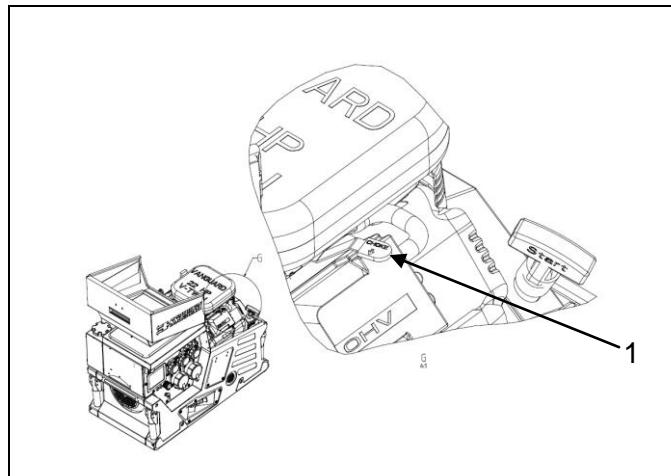

Figure 4-1: Actuate manual choke
1. Pull on the manually-operated choke (*Figure 4-1-(1)*) in < (completely for a cold engine / appropriately less for a warm engine) and hold firmly.
3. Bring the choke (*Figure 4-1-(1)*) into the basic position again.
2. Pull on the choke (*Figure 4-1-(1)*) < (completely for a cold engine / appropriately less for a warm engine) and hold firmly.